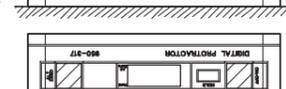

FIG. 3
- Roll the DIGITAL PROTRACTOR so it faces you, the lettering should now be upside-down. (See Fig.3)